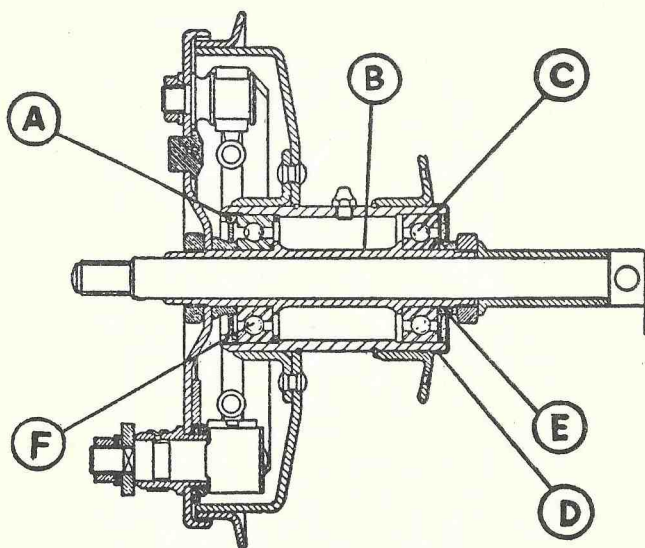

Fig. 29. Section of Front Hub.
Unscrew the nut retaining the brake anchor plate and remove the plate together with the brake mechanism. Remove the ring (A) Fig. 29, noting that this has a left-hand thread and therefore unscrews in a clockwise direction. Using a hide mallet from the brake drum side, drive out the hollow spindle (B) which will carry with it the nearside ball race (C), dust cap (D), and distance piece (E). Only the offside ball race (F) now remains in the hub and this should be driven out with the aid of a soft drift.